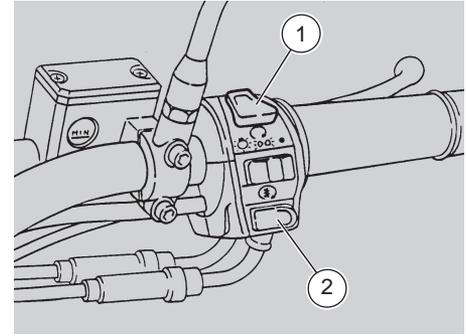
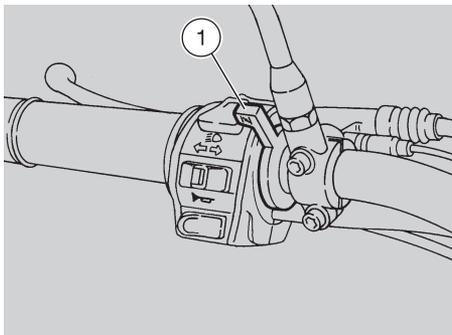
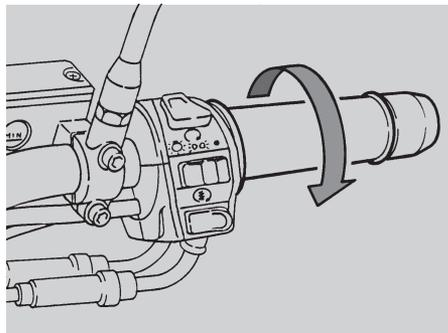

Fig. 19
Fig. 20
Fig. 22
- ◆ Move the engine stop switch (1-Fig. 19) to the "O" position.
- ◆ Press the "🔍" push button (2-Fig. 19) with released throttle grip, then release it as soon as the engine has started. If the engine is cold, rotate the "|\|" lever (1-Fig. 20) downwards.
- ◆ Warm the engine up until it runs normally, with the air lever "|\|" (1-Fig. 20) completely rotated upwards.
- ◆ Rotate the cold start lever "1" (1-Fig. 20) downwards.
- ◆ Press the "⊗" push button (2-Fig. 19) for a few seconds (letting the engine idle) with completely open throttle (Fig. 22). At this point, if the engine starts, release the "⊗" push button and the throttle grip. If the rpm minimum isn't constant, act on the throttle grip rotating it slightly, but frequently. If the engine does not start, wait 10 seconds and carry out the starting again (p. 28).
- ◆ Release the clutch lever gently and at the same time increase the engine speed by rotating the throttle grip gradually (Fig. 22).